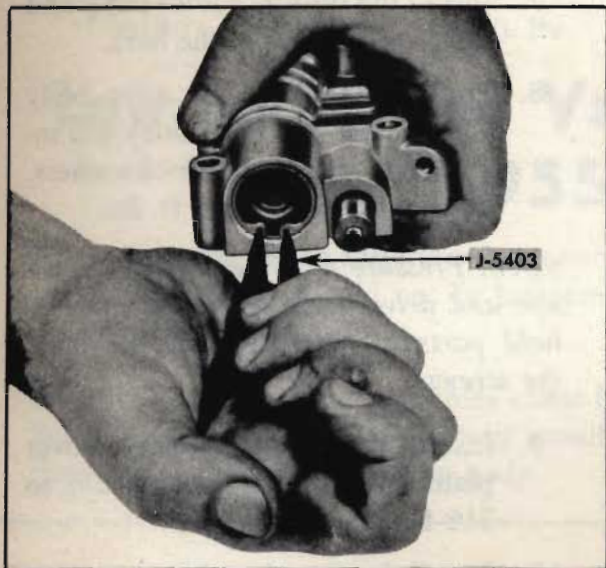

Fig. 7. Removing low and drive valve body snap ring
5. Using a Tru-arc pliers, remove the low and drive regulator cap retainer ring (Fig. 7). Remove the low and drive regulator valve cap, sleeve and valve, low and drive valve inner and outer springs and the low and drive valve.